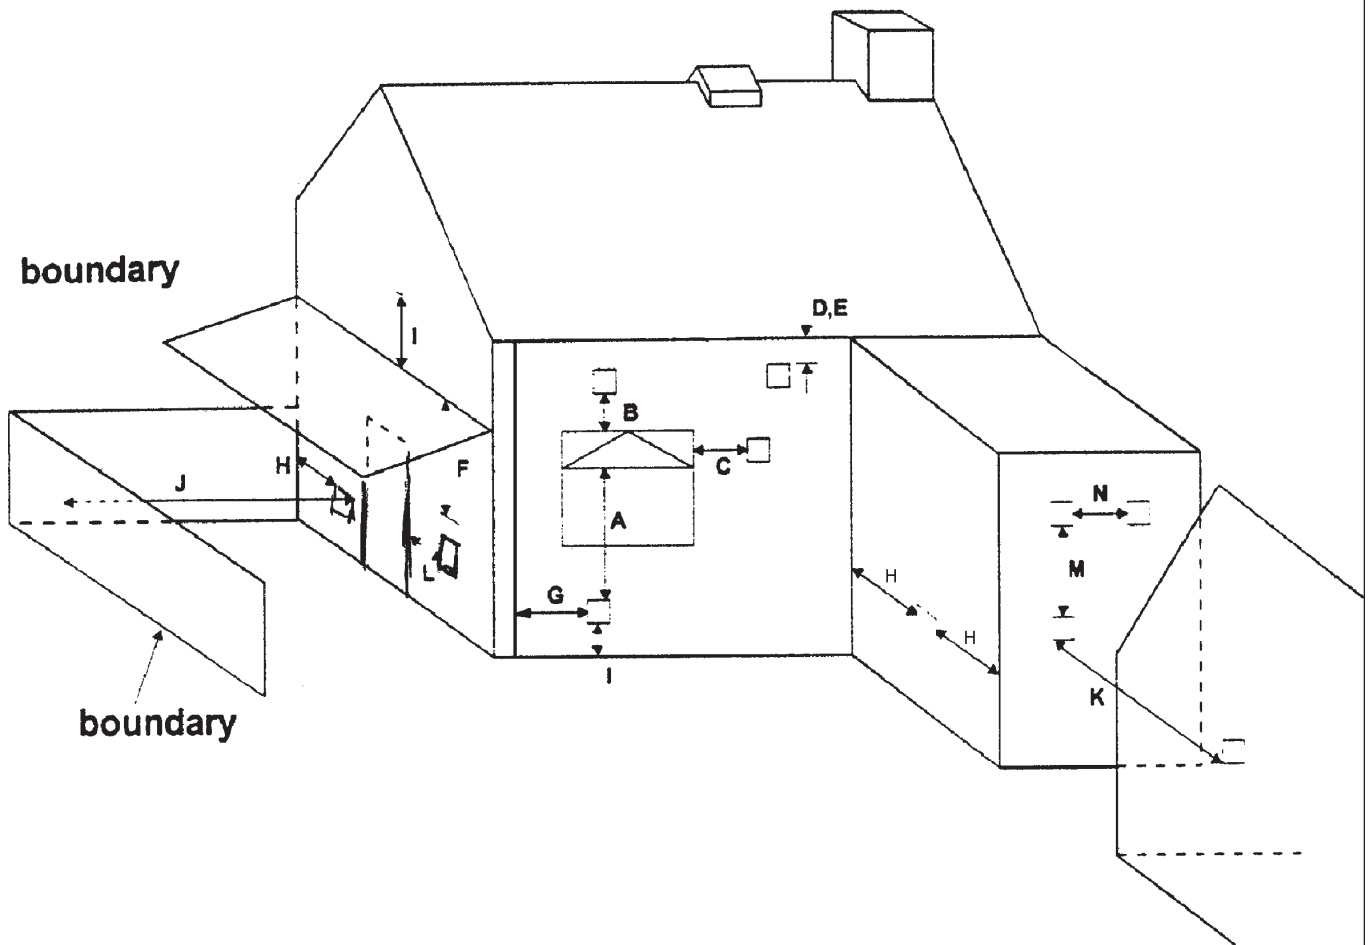

FIG. 9 - Location of flue terminal
- General terminal locations (See Fig. 9)